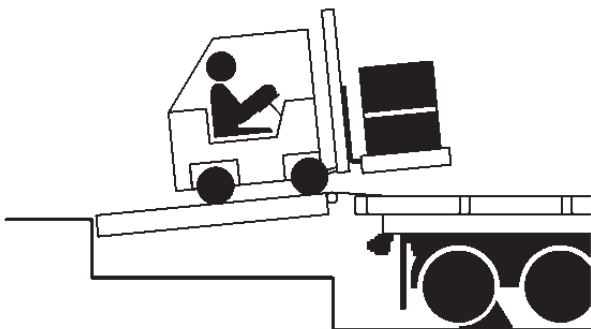

Figure 16
- c. Make sure that the lip is fully extended and supported on the transport vehicle along the entire width of the platform, with at least 4 in. (102 mm) of lip contacting the transport vehicle bed. See Figure 16.